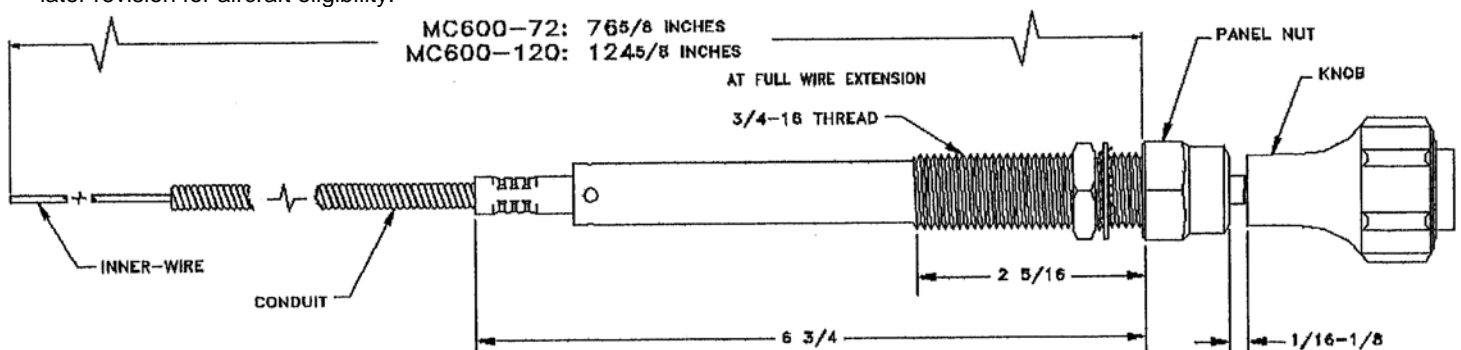

Figure 1.
10. Position the mixture control knob  $\frac{1}{16}$  –  $\frac{1}{8}$  of an inch from the panel nut as shown in Figure 1. Hold the carburetor's mixture arm in the full rich position. Tighten or otherwise secure the hardware as appropriate, making certain that the control's inner-wire is secure and will not slip. Follow the aircraft manufacturers service information when securing or tightening the attaching hardware.
12. Inspect the function of the installation by moving the mixture knob to the full lean position. Visually inspect the carburetor's mixture arm. It must be against the lean stop on the carburetor. Move the control knob to the full rich position. Visual inspect the control arm on the carburetor. It must be against the full rich stop and the mixture control knob must be  $\frac{1}{16}$  to  $\frac{1}{8}$  of an inch from the panel nut as shown in figure 1. Cycle the control from full rich to full lean several times. The control should move freely without excessive resistance throughout it's range of travel. Move the flight controls to all positions and check for interference between the flight controls and the mixture control when the mixture control is in all positions. Correct any interference before the aircraft is returned to service.